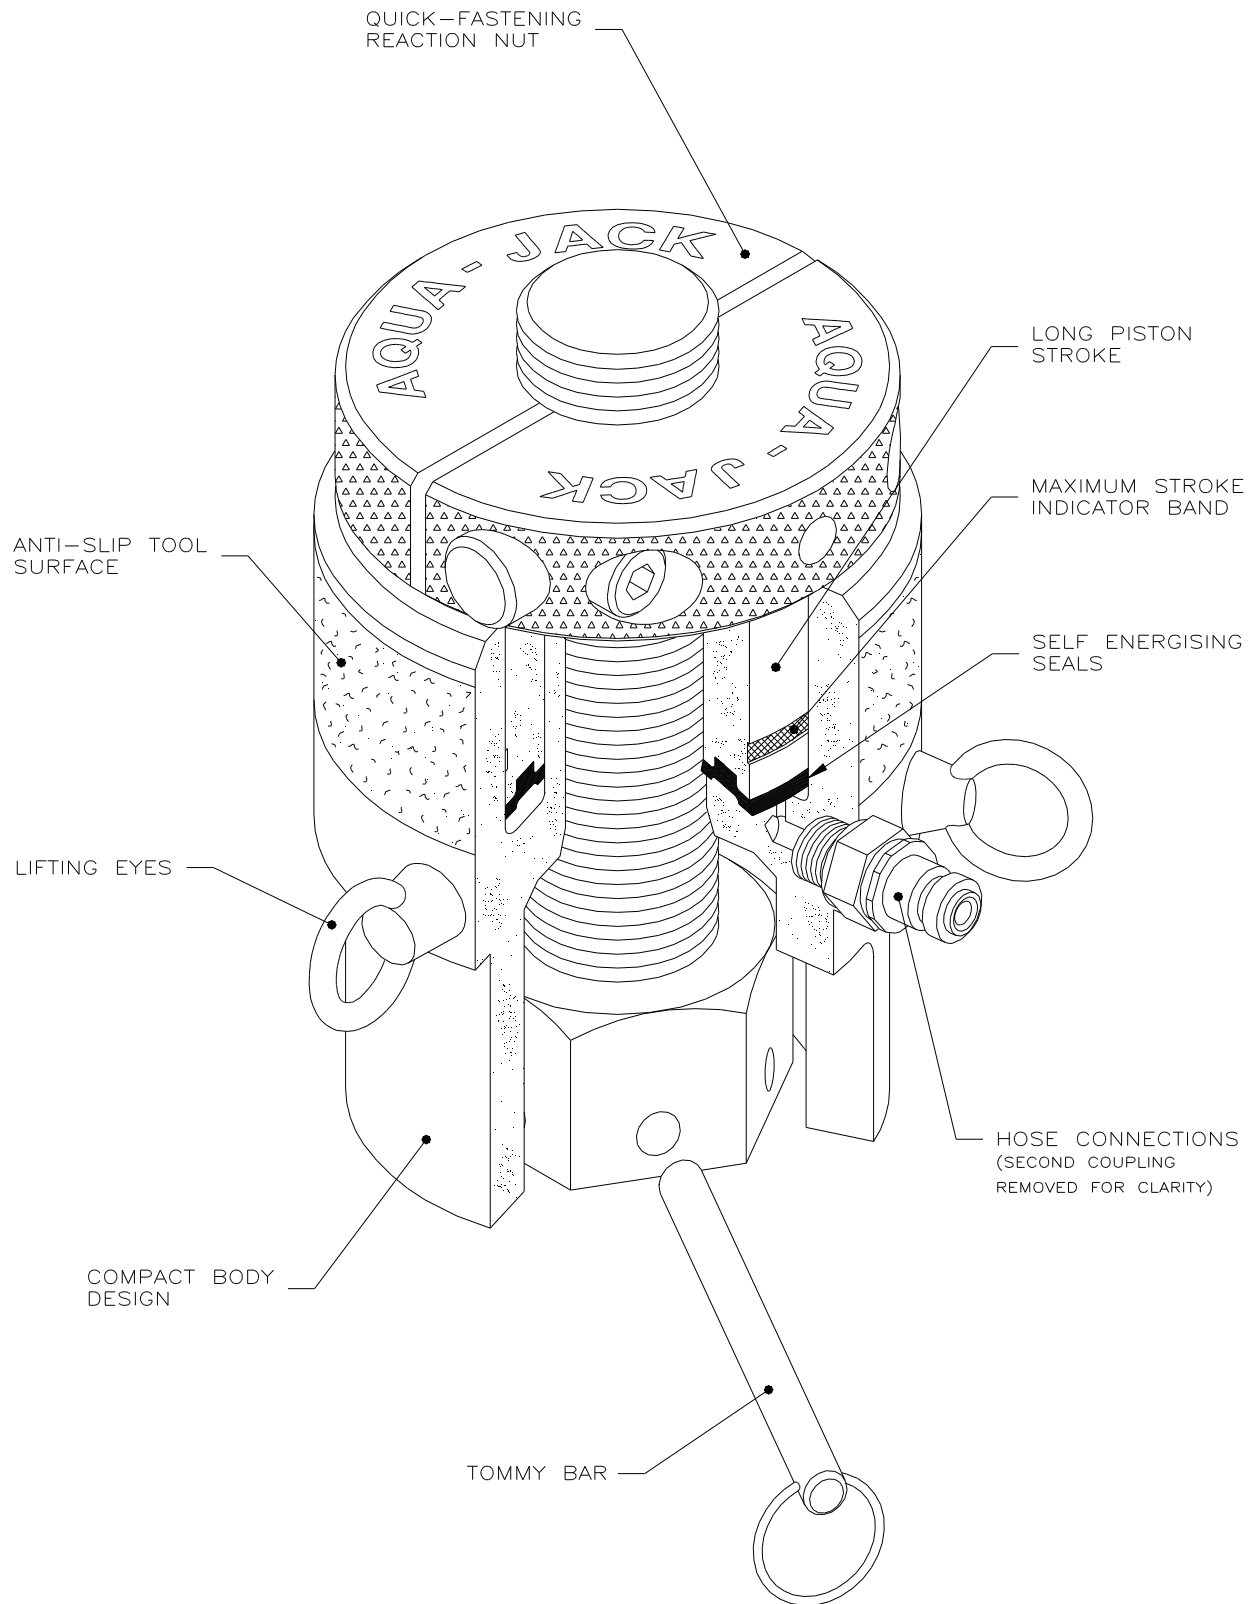

FIG 1 : THE AQUA-JACK SUBSEA BOLT TENSIONER
1.2 AQUA-JACK BOLT TENSIONER (FIG 1)